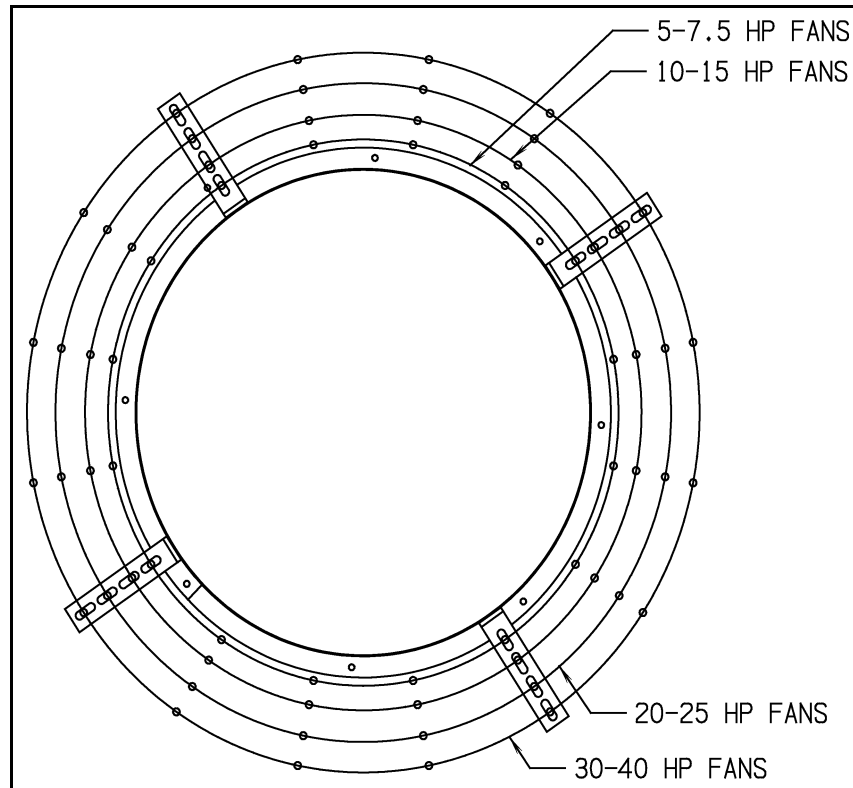

Figure 5A Heater Mounting Brackets Illustration
1. Install three(3) mounting brackets on fan as indicated by the arrows shown in *Figure 5A*. Install loosely.
2. Set heater in place and install fourth (4) mounting bracket.